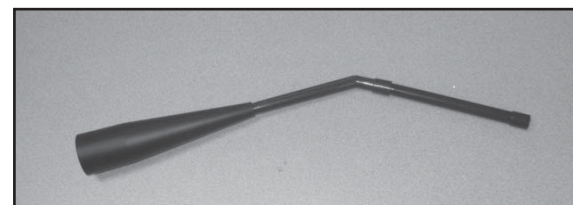

Figure 17.4
- c. Assemble the crevice tool from the micro cleaning kit to attach to a Shop Vac. **Figure 17.4**